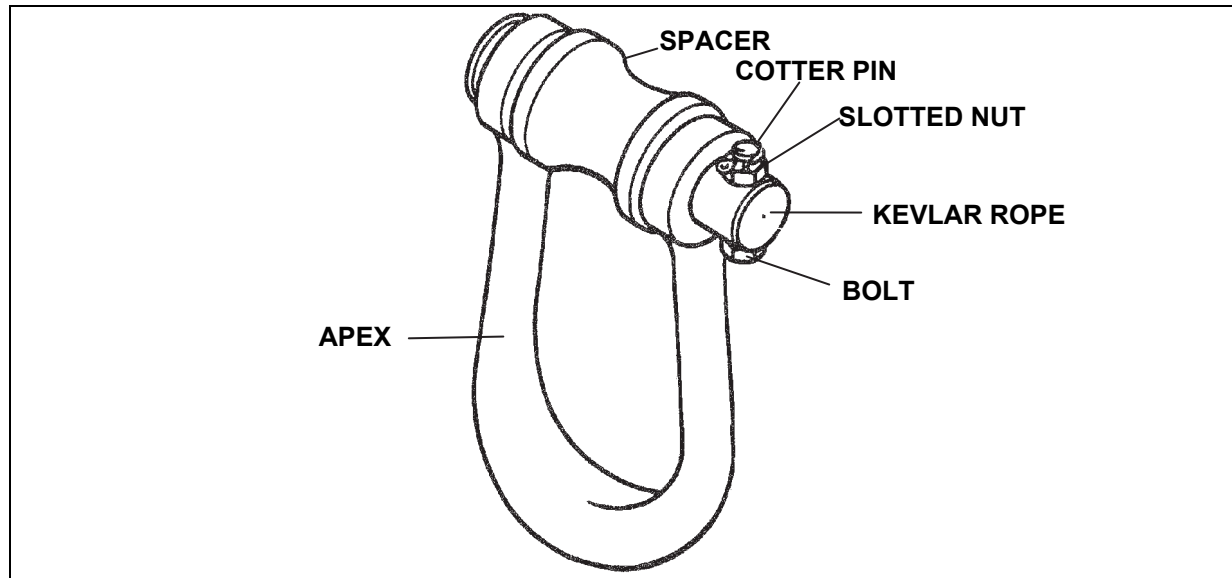

Figure 6-32. 40,000-Pound Capacity Apex Shackle Fitting
- Apex Shackle Fitting.** The 40,000-pound capacity steel apex shackle fitting holds the sling leg assemblies and attaches directly to the helicopter cargo hook (figure 6-32). The apex fitting can be easily disassembled to allow for the removal or addition of sling legs as necessary. The spacer helps to center the apex fitting on the cargo hook.